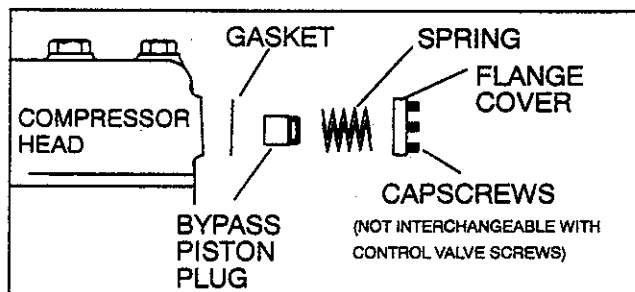

Figure 4-14 Removing Bypass Piston Plug
- Remove the three socket head capscrews from the cylinder head(s) that have unloader valves installed. See Figure 4-14. Remove the unloader valve and bypass piston assembly, keeping the same capscrews with the assembly. The original unloader valve must be transferred to the replacement compressor. The plug arrangement removed from the replacement is installed in the original compressor as a seal. If piston is stuck, it may be extracted by threading a socket head capscrew into top of piston. A small Teflon seat ring at the bottom of the bypass piston plug must be removed.